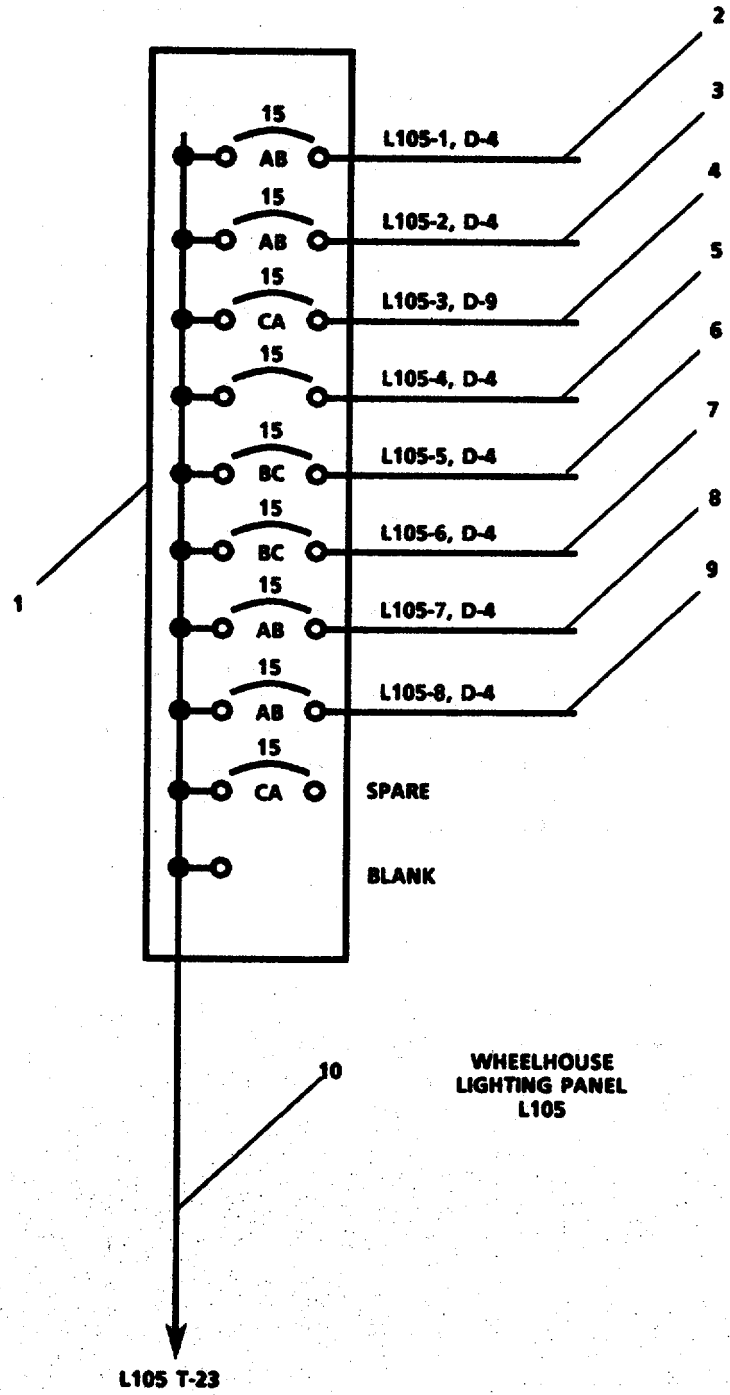

FIGURE 3-154. *Power Distribution Panel L105.*
**3-169. Repair Power Distribution.Panel L105. (Figure 3-154).**